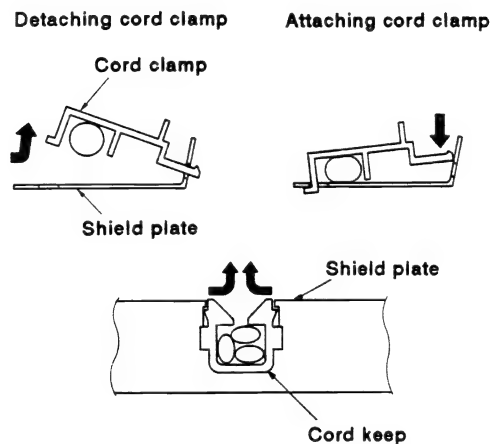

Fig. 3.3
- c) Pull the front side of the cord keeper up and unhook the two hooks securing it to the shield plate for removal. (Fig. 3.3)
- d) Push the cord keeper from both sides to unhook the hooks and push it out. (Fig. 3.3)
- (1) To reassemble the chassis unit, reverse the order of disassembly. (See "4. SPIRAL TUBE.")
- (2) When hooking on the cord keeper, it is easier if the two rear hooks are hooked to the shield plate before pushing the cord keeper front towards the shield plate. (Fig. 3.3)